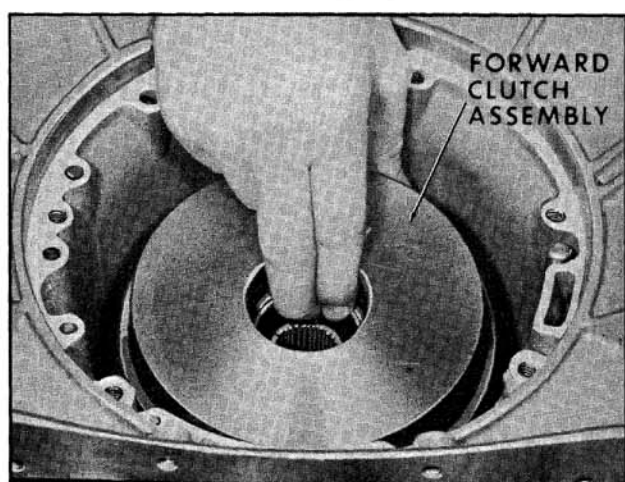

Fig. 6-363 Removing Forward Clutch
3. Remove forward clutch assembly by pulling straight out of case. Make certain low band has been released before attempting to remove forward clutch. (Fig. 6-363)